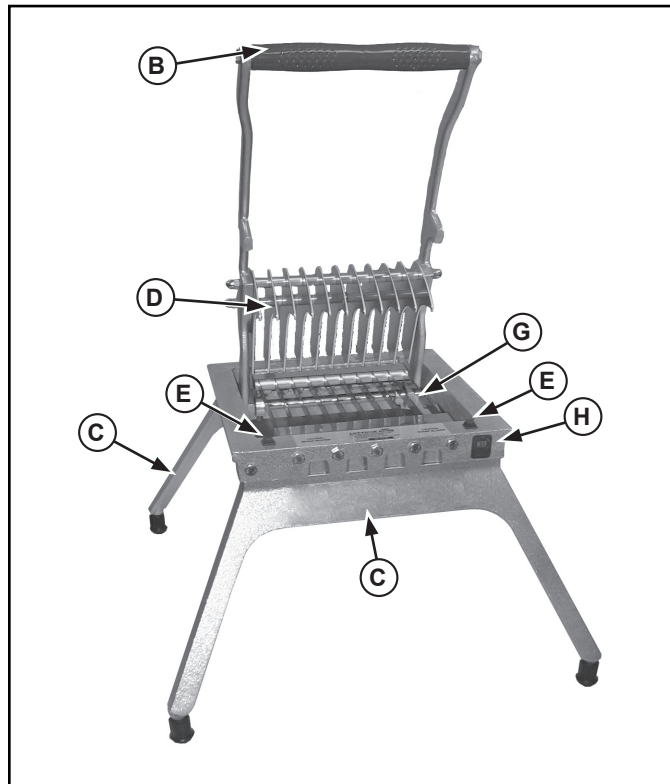

Figure 1. Features and Controls Lettuce King I.
2. Before each use, always check for proper blade alignment. Slowly set the pusher head (D) onto the blade assembly. See Figures 1 and 2. They should slide together with no obstructions. If there are obstructions, verify they are a matching set.
5. Lift the handle (B) and place the food on the blade assembly (G) with the flat side down. See Figures 1 and 2.
6. **Lettuce King I:** Remove hand from the blade assembly (G) area and place that hand on the leg (C). See Figure 1.
1. Raise the handle to put the highest position. See Figures 1 and 2.
5. The blade assembly (G) is best cleaned by forcing water under pressure through the blades from the unsharpened side. If necessary, use a nylon bristle cleaning brush to push food particles out from the unsharpened side of the blade assembly (G).